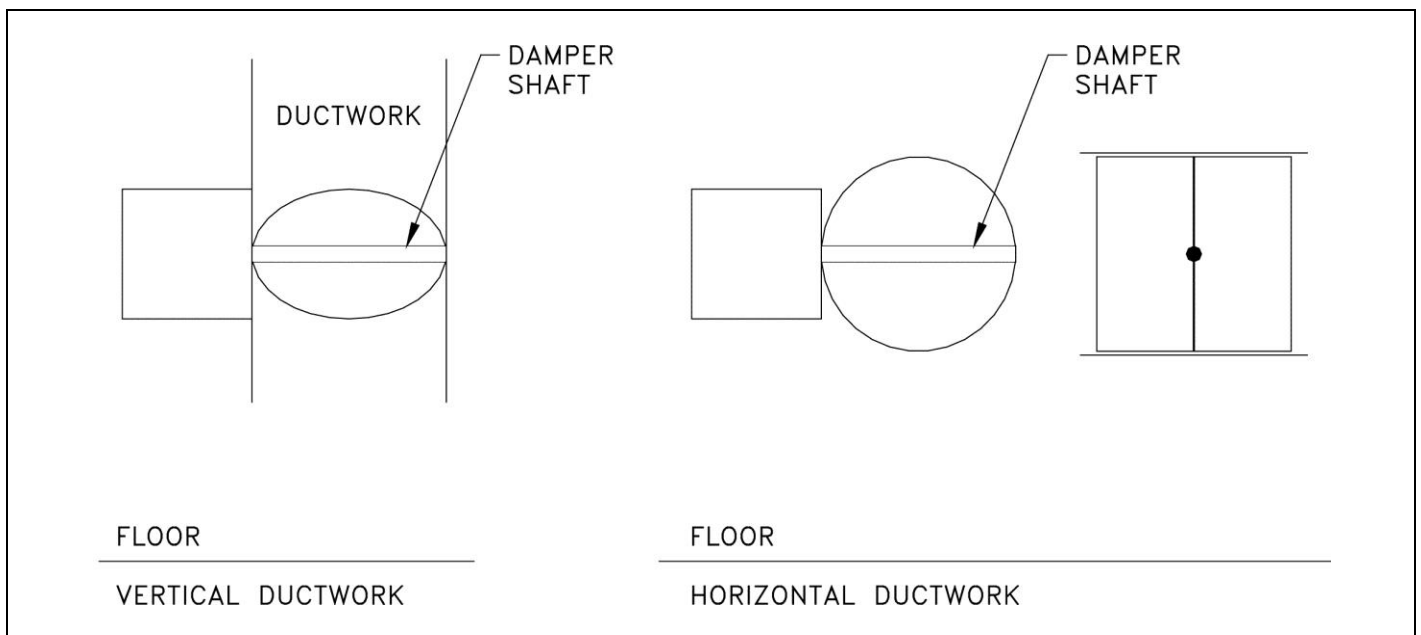

Figure 14: Proper Damper Mounting
- The damper must be installed with the damper shaft parallel to the ground (Figure 14).